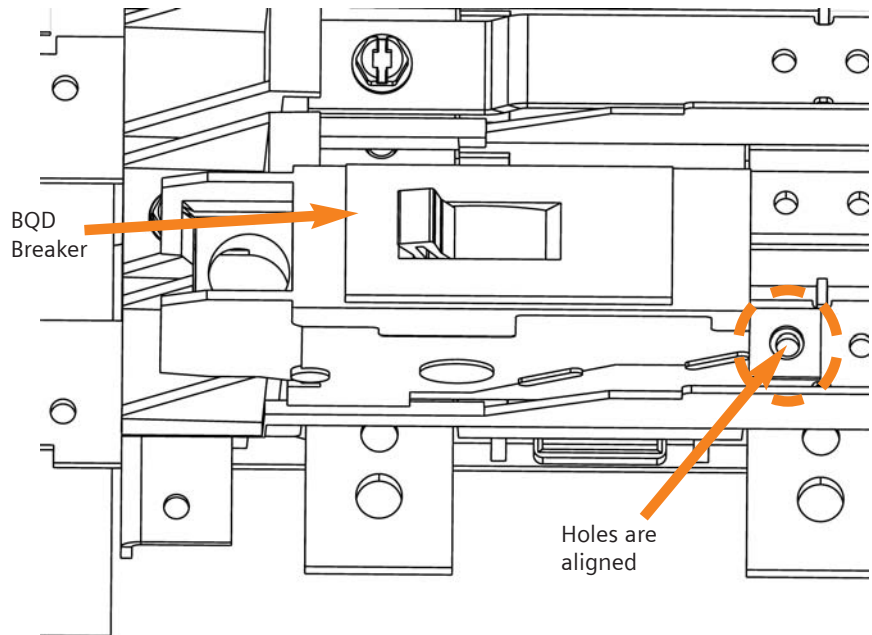

Figure 6.4
7. Align the BQD line connection hole with the tapped hole on the panel bus bar as shown in figure 6.4 below.